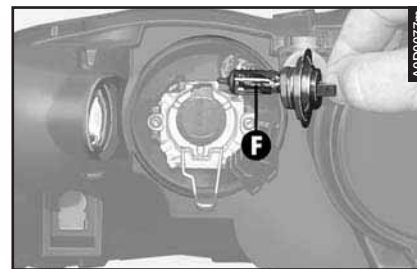

fig. 44
– Remove the bulb (**F- fig. 44**).